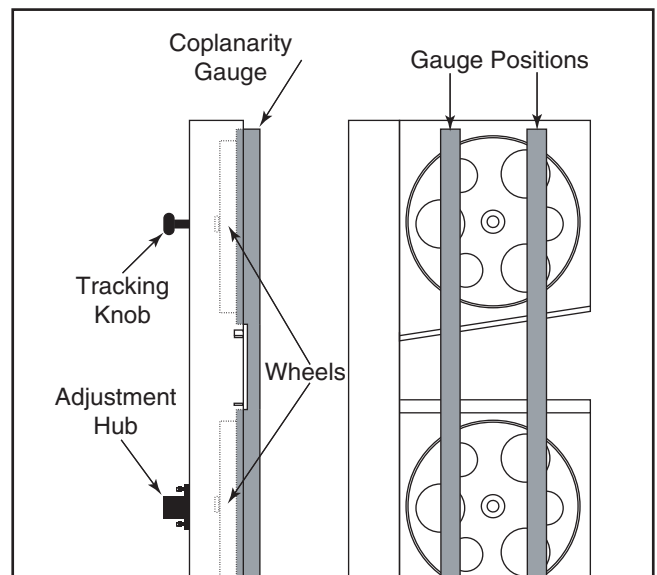

Figure 63. Checking for coplanarity.
7. Place your coplanarity gauge up against both wheels in the positions shown in **Figure 63**.